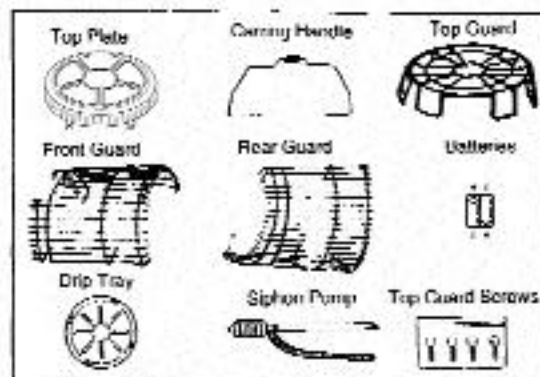

Fig. 2
1. REMOVE THE HEATER AND ALL PACKING MATERIALS FROM THE BOX. (Fig. 2)